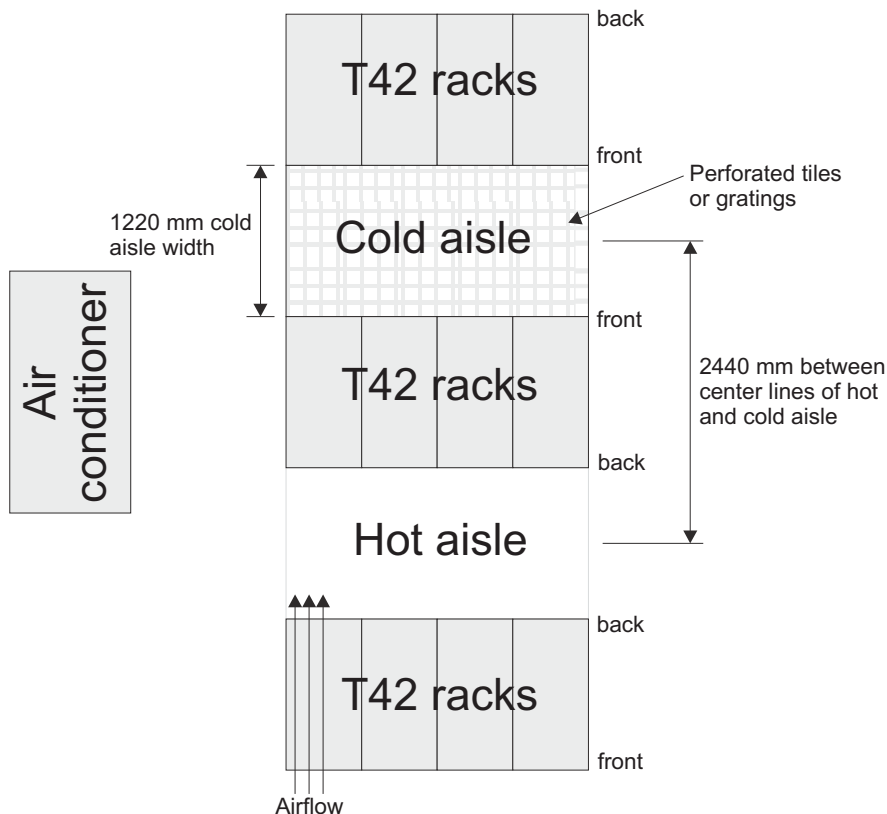

Figure 16. Example of cold aisle/hot aisle rack configuration
- Air enters at the front of the rack and leaves at the back. To prevent the air that is leaving the rack from entering the intake of another piece of equipment, you must position the racks in alternate rows, back-to-back and front-to-front. This arrangement is known as “cold aisle/hot aisle” and is shown in Figure 16.